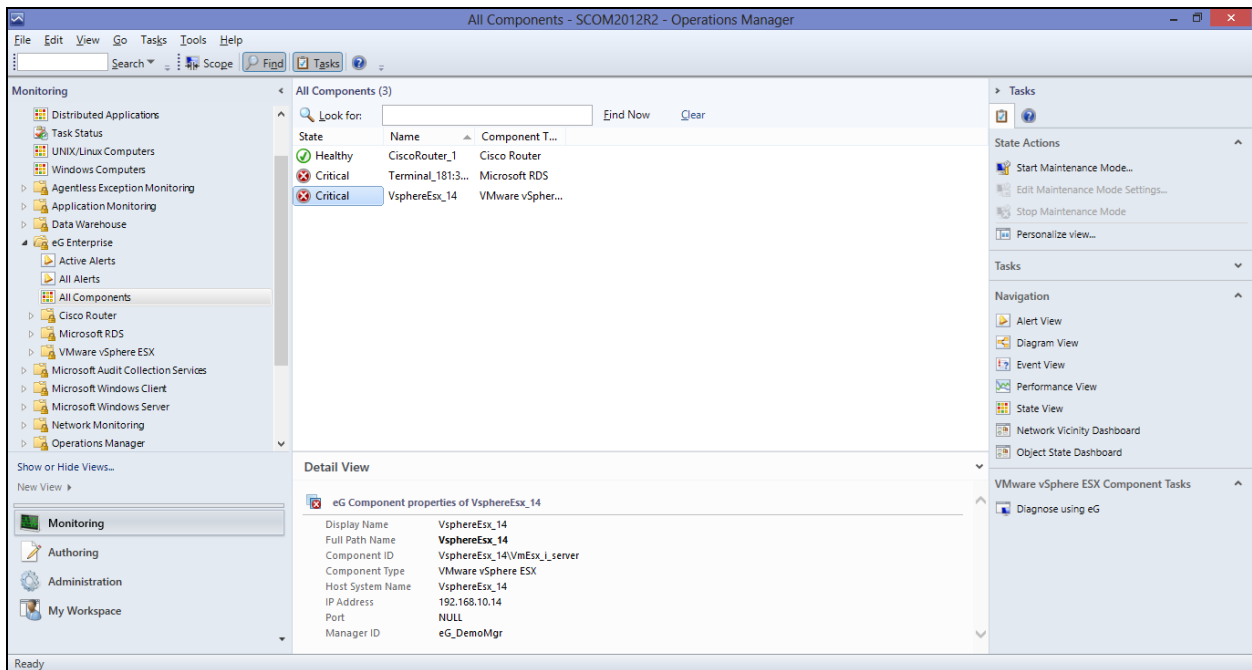

Figure 4.8: The All Components sub-node
1. Click on the **All Components** sub-node under the **eG Enterprise** node in the tree-structure in the left panel of the SCOM console. The right panel will then display all the eG-managed components and their current state (see Figure 4.8).
3. From Figure 4.8, it is evident that while the Terminal and vSphere servers in our example are in a **Critical** state currently, the Cisco router is in a healthy state.